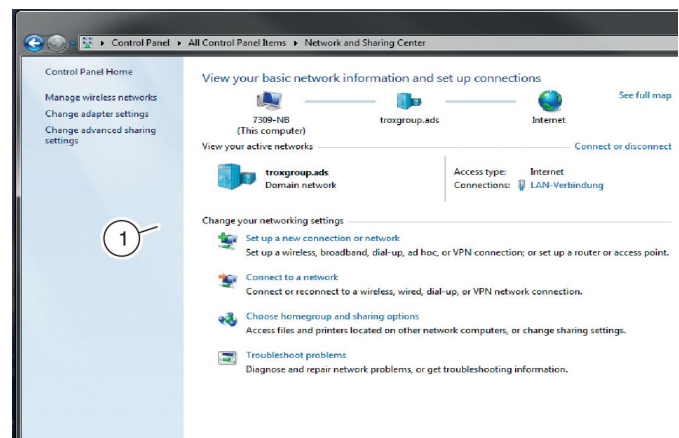

Fig. 50: Setting up a new connection or network
2. ▶ Select 'Set up a new connection or network' (Fig. 50 /1).